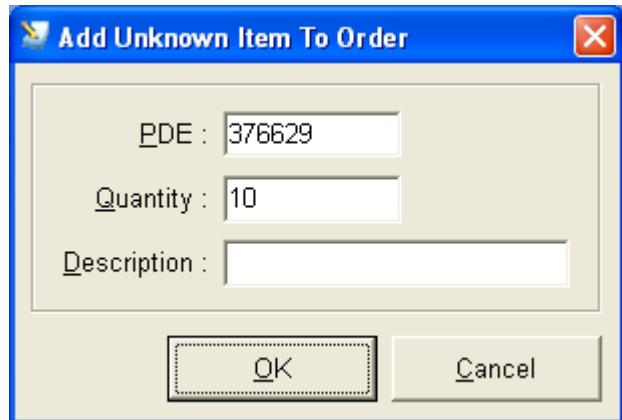

Figure 292
- From your order screen, select the [shift] + [insert] key. This will display the 'Add Unknown Items To Order' window (as shown in Figure 292).